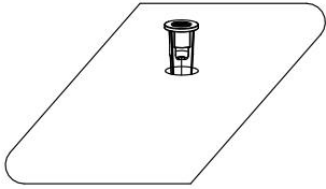
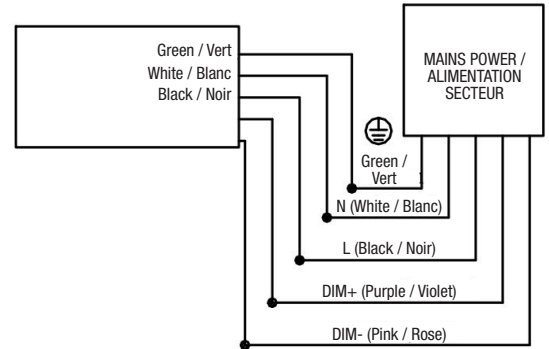

Fig. 8
Fig. 10
2. Fix the base to the junction box as shown in Figure 8. Wire it correctly as shown in Figure 10.
1. Insert the spike in the ground, as shown in Figure 8.
3. Wire it correctly as shown in Figure 10.
1. Insérez la pointe dans le sol, comme le montre la figure 8.
3. Câblez-le correctement comme indiqué dans la Figure 10.